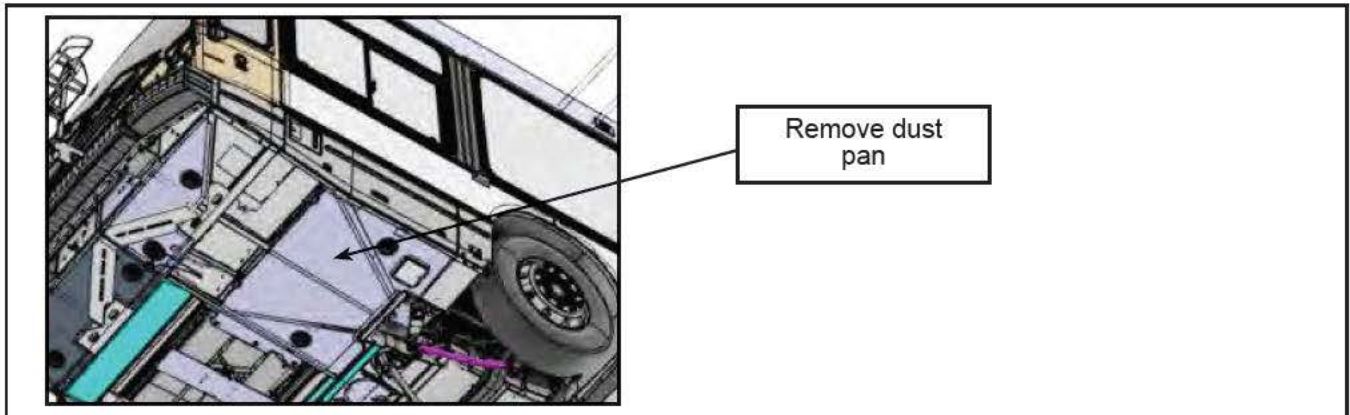

Figure 8 - Remove Dust Pan
- 1.21. Remove the dust pan shown in Figure 8.